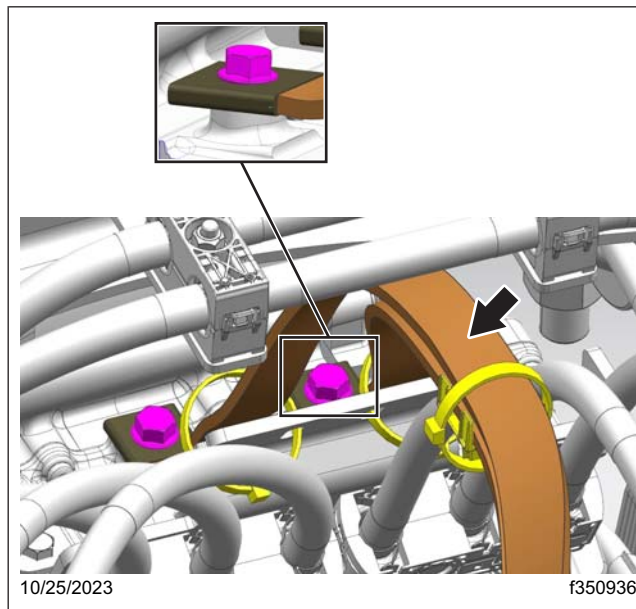

Fig. 3, Flat Grounding Cables Straps
9. Disconnect the flat grounding cables straps from the e-Axle. See **Fig. 3**.
60. Connect the flat ground cable straps to the e-Axle. See Fig. 3.